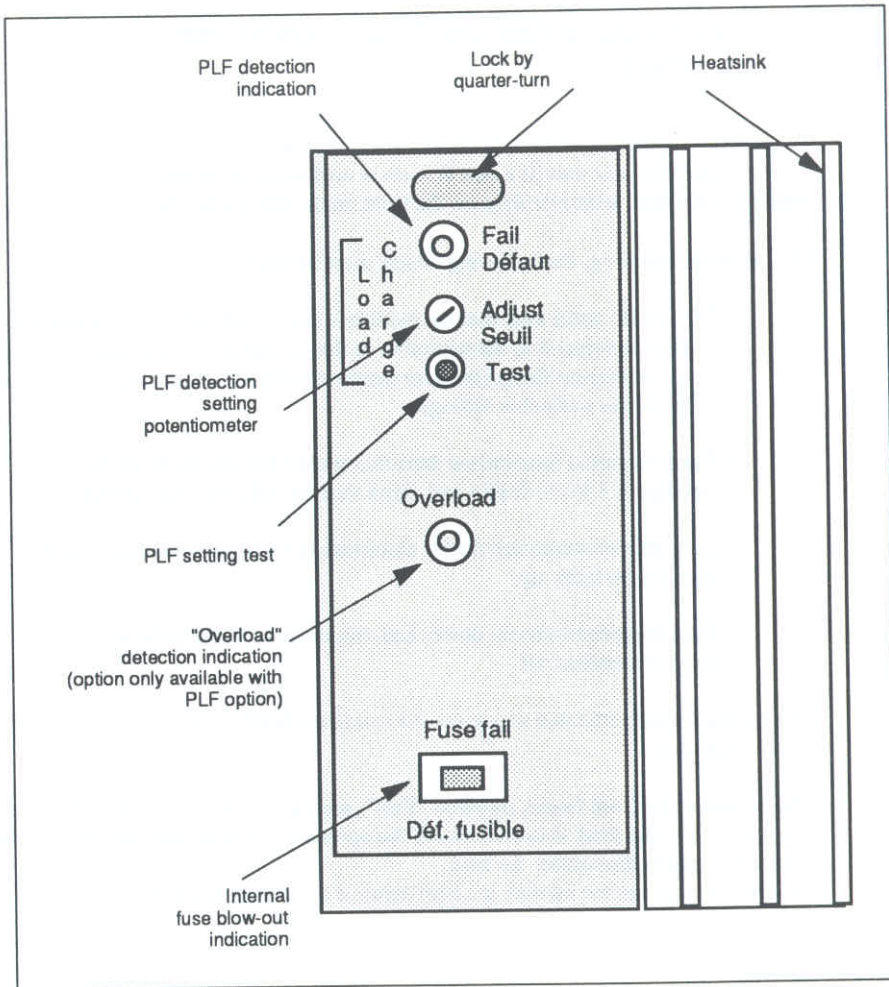

Figure 3.4 Front fascia of a 451 series module
- Turn the partial load failure detection setting potentiometer completely (see figure 3.4) clockwise and check that the indicator light does not light up.
The button on the front fascia, (marked "Test", see figure 3.4) which simulates a current drop of 10 % in the load, is used to check the operation of the partial load failure circuit without having to disconnect the load.